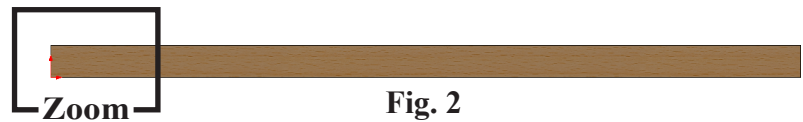

Fig. 2
Step 3. Zoom in around **front of the Fuselage**, Fig. 2. To **zoom**, hold down **Shift** key and drag with middle mouse button (wheel). To **pan**, hold down **Ctrl** key and drag with middle mouse button (wheel).